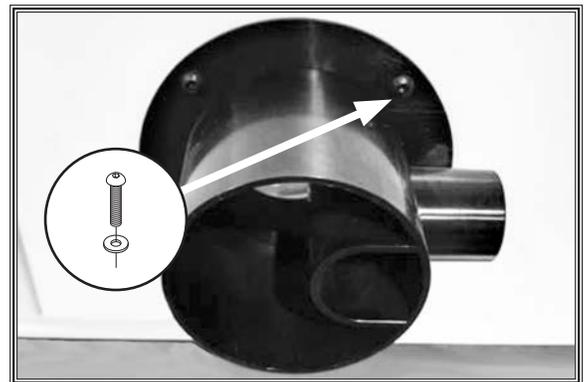

Figure 31. Dust port installed.
29. Attach dust port to cabinet using (4) M5-.8 x 12 button head cap screws and (4) 6mm flat washers (see **Figure 31**).